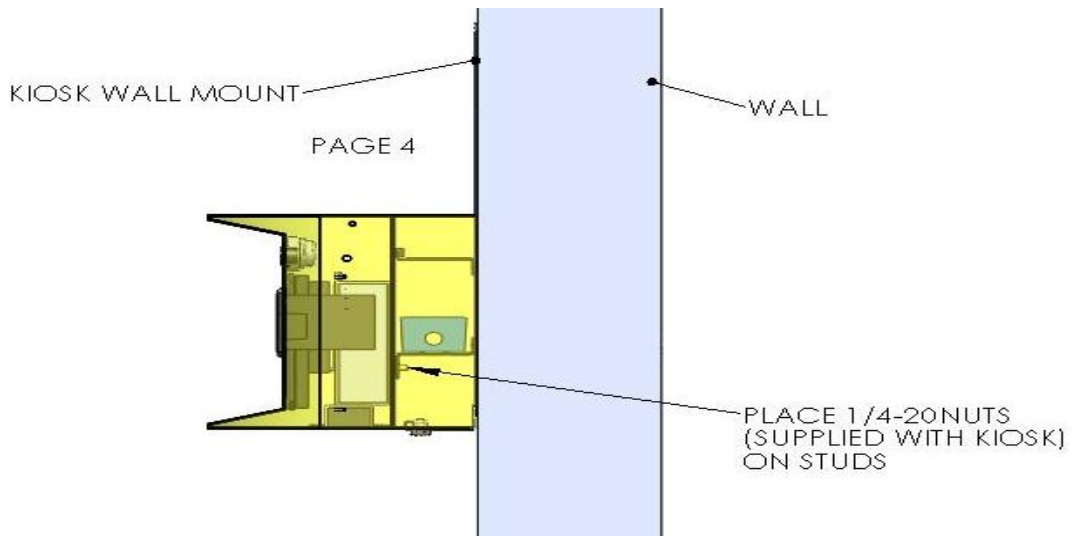

Figure 3: Kiosk on Wall Bracket
- Figure 3: Kiosk on Wall Bracket12